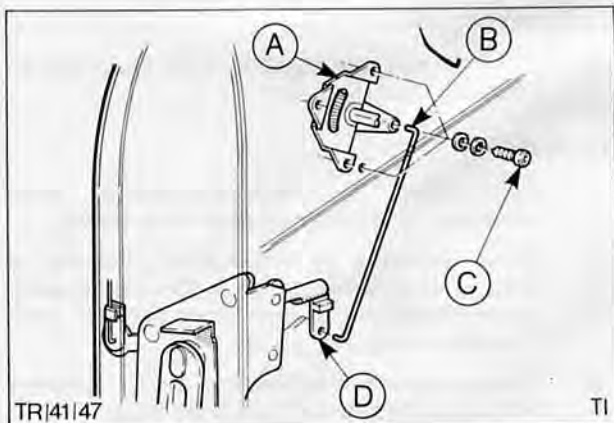

Fig. 31. Remote control assembly side door
5. Position lock assembly on door pillar within door shell. Connect lock lever rod Fig. 31 'B', from outside handle to upper lever on lock assembly. Then insert and tighten three screw and washer assemblies to secure lock to door.